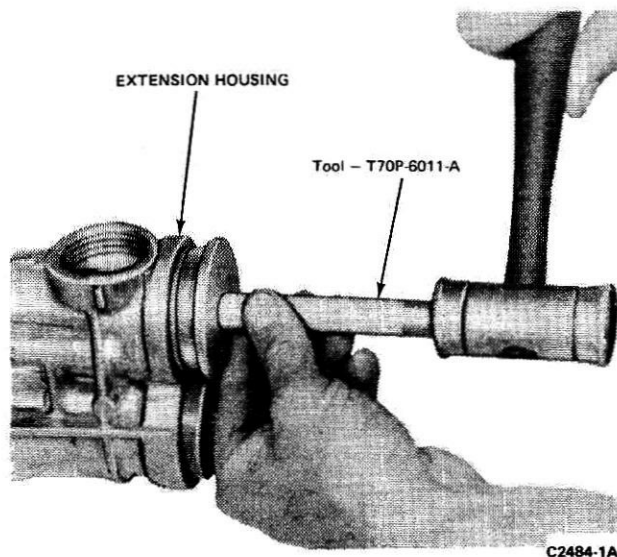

FIG. 36 Installing Extension Housing Plug
31. Apply sealer to a new extension housing plug and install it with Tool No. T70P-6011-A as shown in Fig. 36.